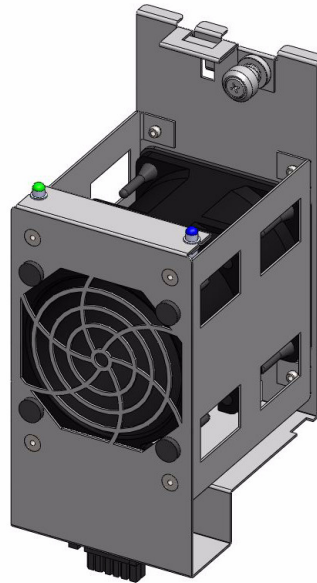

Figure 4-4 Fan Module
- Remove the front chassis cover (see “Removing the Front or Rear Chassis Cover” on page 134) and locate the fan module with the illuminated blue LED (Figure 4-4).